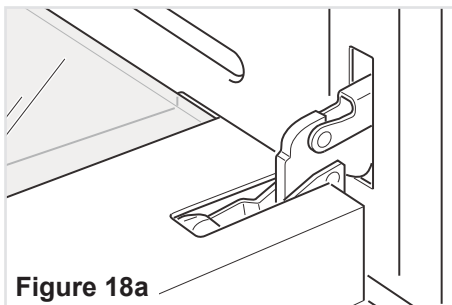

Figure 18a
- Open the door to the full extent (fig. 18a).